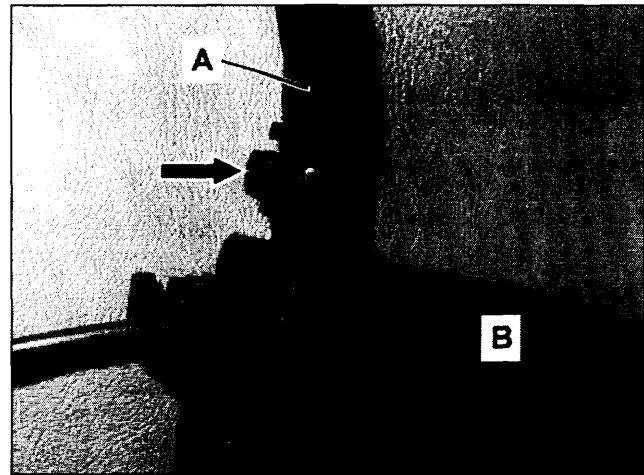

Figure 10
9. Remove cable tie (arrow, Figure 10) securing SBC wire harness (A) to SBC connector housing (B).